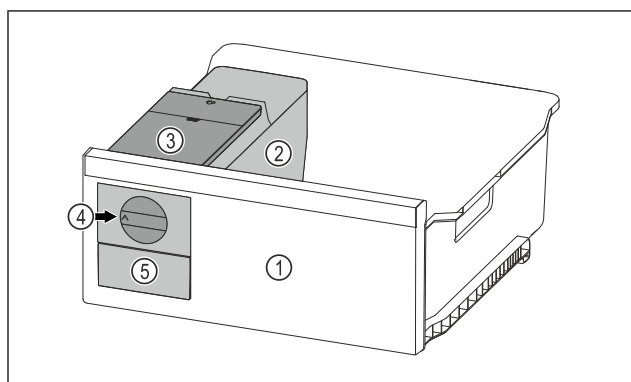

Fig. 84 Example illustration
- Turn the rotary knob Fig. 84 (4) clockwise as far as it will go.
- ▷ Ice cubes fall from the ice cube tray into the ice cube drawer Fig. 84 (5).